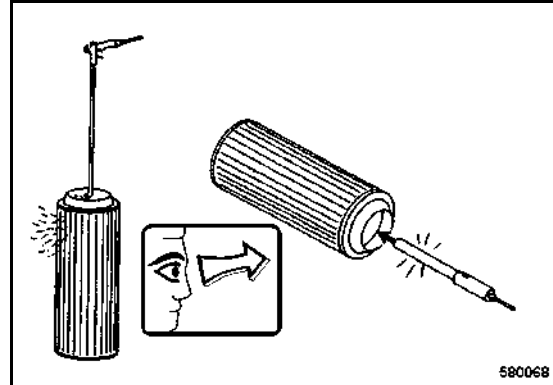

Fig. 145
*For cleaning purposes fit a tube to the compressed air gun (Fig. 145), the end of which should be bent for approx. 90°.*